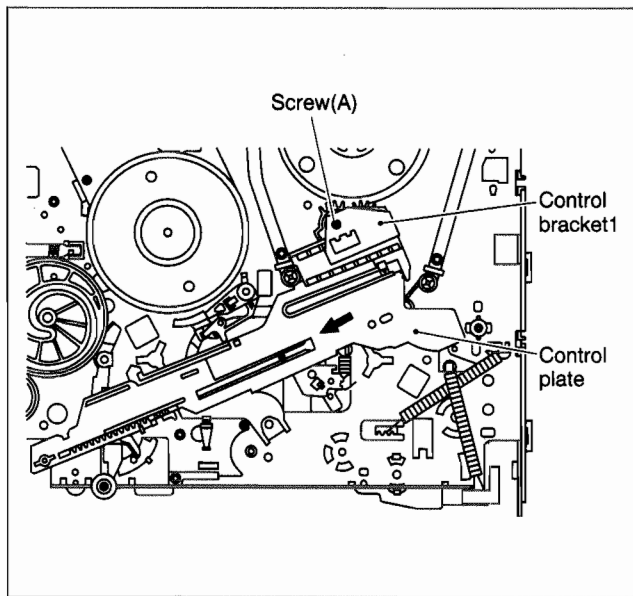

Fig. 2-2-29
- (1) Remove the screw (A) retaining the control bracket 1 and remove the latter.
- (2) Slide the control plate as indicated by the arrow and remove the control plate. (See Fig.2-2-29.)